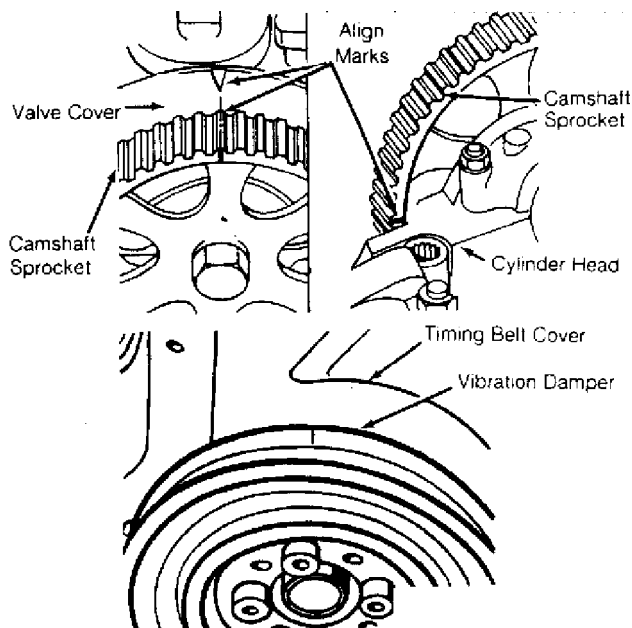

Fig. 10: 16-Valve Timing Mark Alignment
1) Install timing belt around crankshaft and intermediate shaft sprockets. Install lower timing belt cover. Install vibration damper, noting offset holes. If valve cover is installed, mark on front of camshaft sprocket must align with mark on valve cover. If valve cover is removed, place camshaft sprocket mark even with valve cover surface. See Fig. 10.
2) Align crankshaft sprocket mark with mark on lower timing belt cover. See Fig. 10. Install timing belt around camshaft sprocket. Rotate tensioner clockwise until Timing Belt Tension Scale (VW 210) reads 13-14. Rotate crankshaft 2 revolutions and check timing mark alignment. To complete installation, reverse removal procedure.